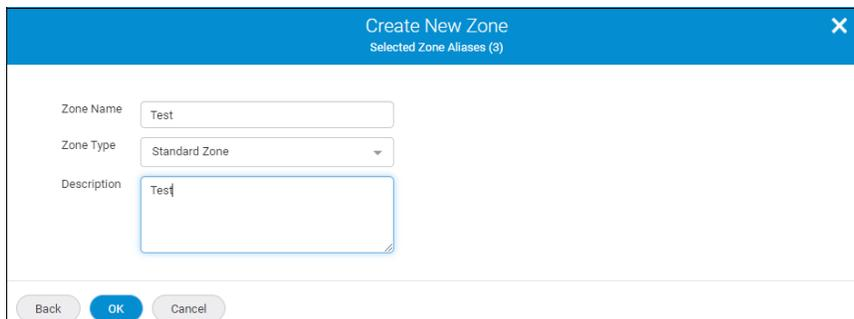

Figure 5-35 Create New Zone when adding alias
- To add aliases to a new zone, click **Create New**. Enter a zone name and zone type, and then click **OK**, as shown in Figure 5-35.